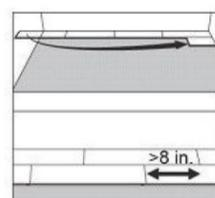

Figure 2
10. Position the first plank of the second row by angling it up slightly, pushing forward and interlocking the side tongue (**Figure 2**). Slide the plank to the left to align the edges of the end joint.